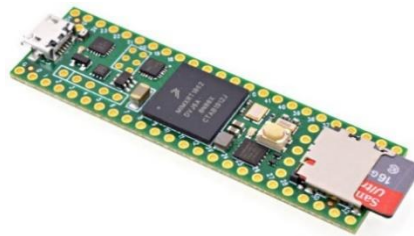

Figure 3. Teensy 4.1 with micro-SD card. [1]
- 1) Ensure the MCMD has a micro-SD card inserted within it, as shown in the lower right-hand corner of Figure 3 below. For more information on how to add a new micro-SD card to the MCMD please go to Section 10.01 Adding a New micro-SD Card to the MCMD.